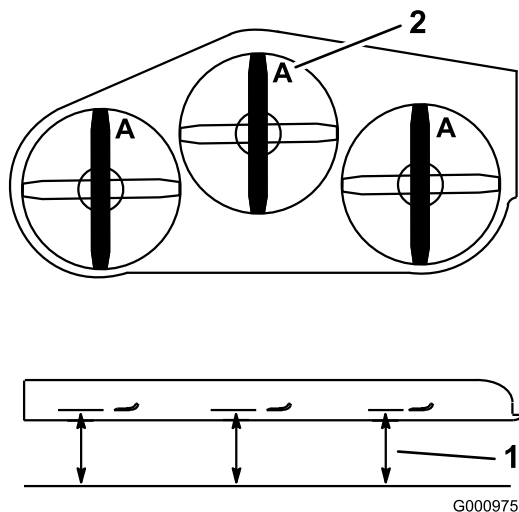

Figure 85
- Measure at **A**, and from a level surface to the cutting edge of the blade tips (Figure 85).